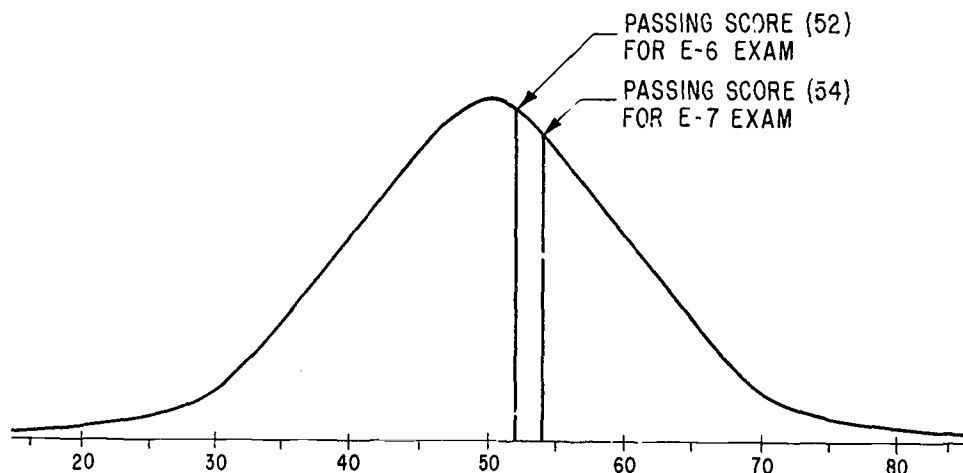

Figure 1-1.—Advancement examination grading curve.
**GRADING THE EXAMINATION.**—The Navywide Advancement Examination is graded by machine and the maximum score is 80 points. Figure 1-1 shows the bell shaped curve that is the basis for advancement examination grading.